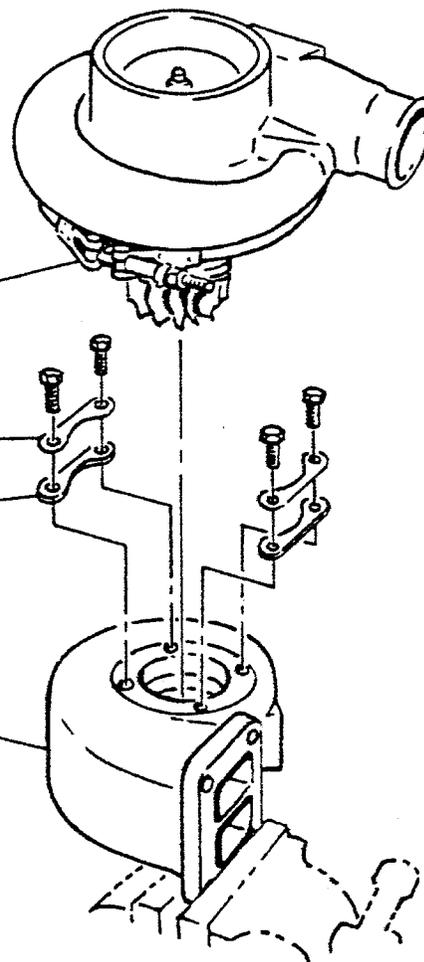

FIG. 4
20. Clamp the exhaust inlet flange of the new turbine housing in a bench vise. Install the turbo exhaust outlet adapter casting to the turbine housing with five 8mm x 20mm metric hex bolts. Apply a dab of anti-seize compound to the bolts, then torque bolts to 11.3N-m (100 in.-lbs.). Make sure turbine inlet flange does not rotate in the vise while torquing. See fig. 4.